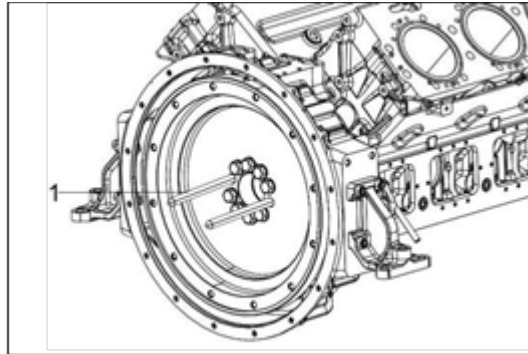

Figure 107.
2. Remove two diametrically opposed bolts from the flywheel. Fit the flywheel guides (Figure 107, item 1) instead.